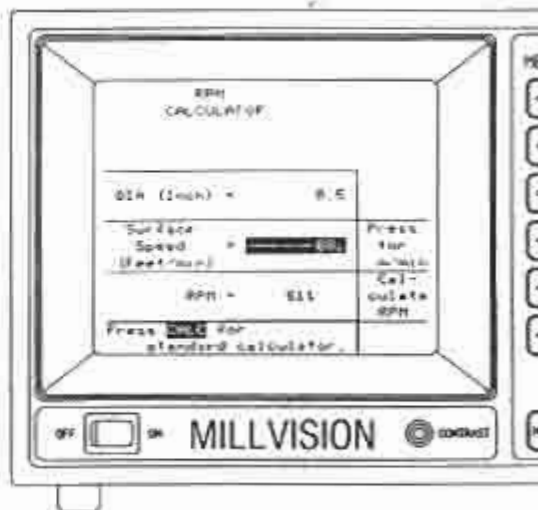

Figure 37. RPM Calculator Screen.
- 4) Use the down arrow key to highlight the value for "Surface Speed in Meters per Minute" (SMM) (Figure 37).